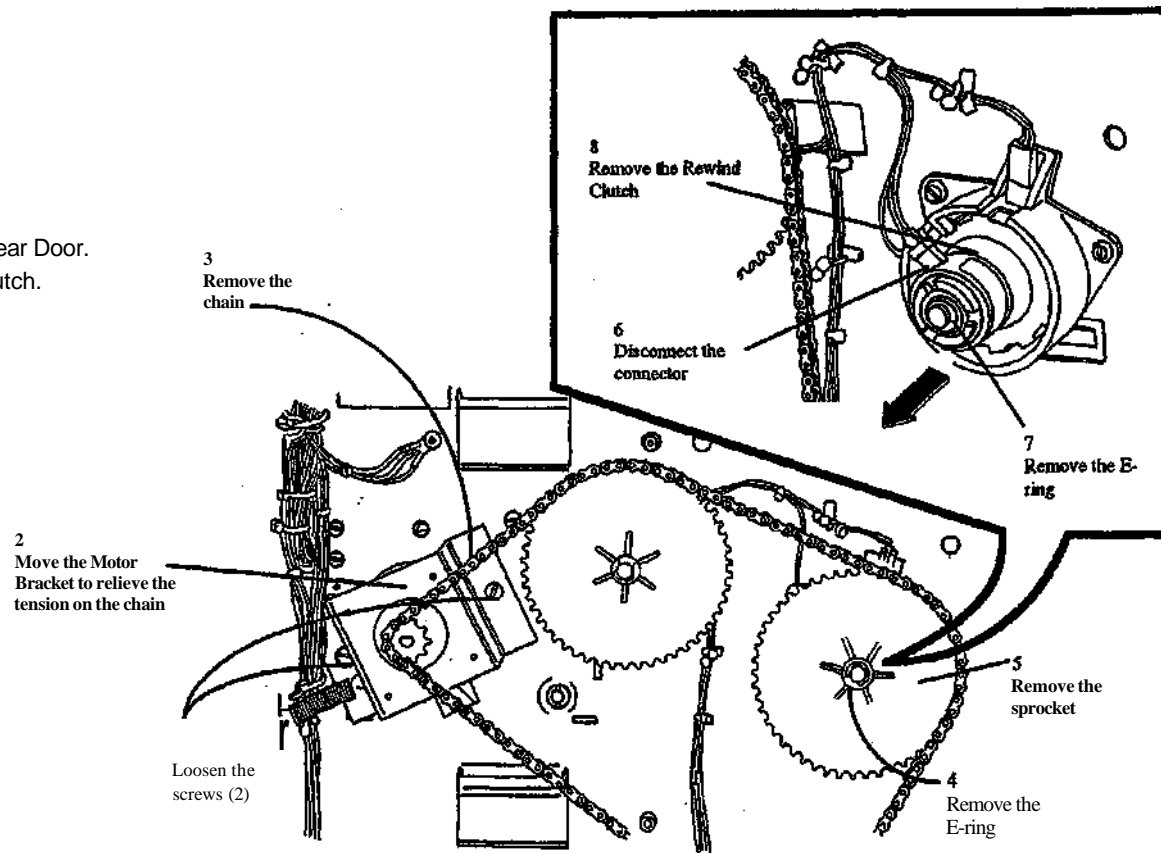

Figure 1. Removing the Rewind Clutch
2. (Figure 1): Remove the Rewind Clutch.